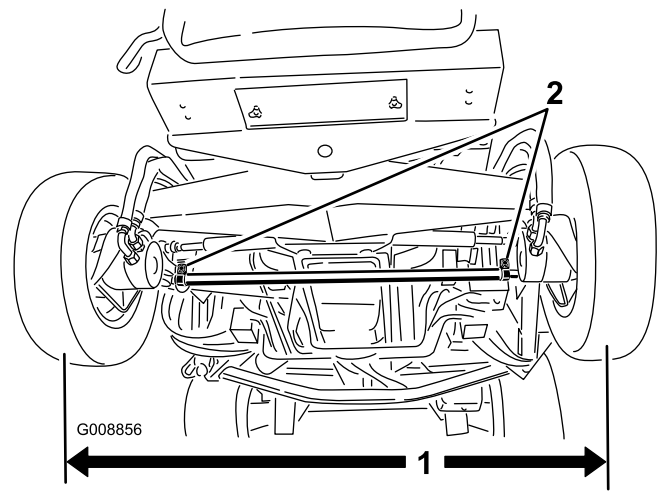

Figure 77
2. To adjust, loosen the clamps at both ends of the tie rods (Figure 77).
1. Measure the center-to-center distance (at axle height) at the front and rear of the steering tires (Figure 77). The front measurement must be no greater than 0.00-0.12 inch less than the rear measurement.